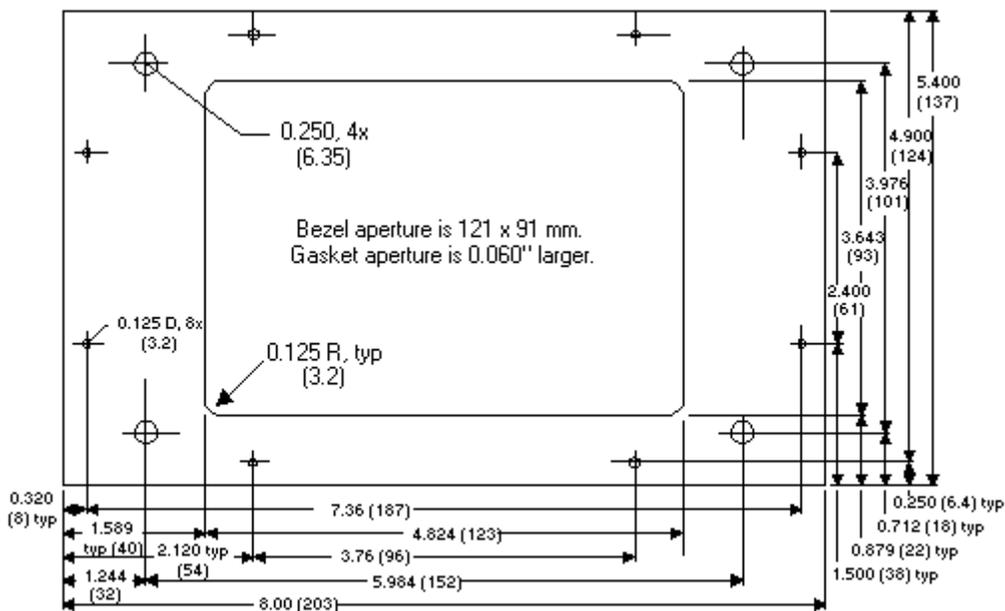

Figure 3.7: Nexus P60N Touch Screen Display Bezel Mounting Diagram
- Carefully “drop in” the P60N with bezel and gasket attached. See Figure 3.7 below for details.